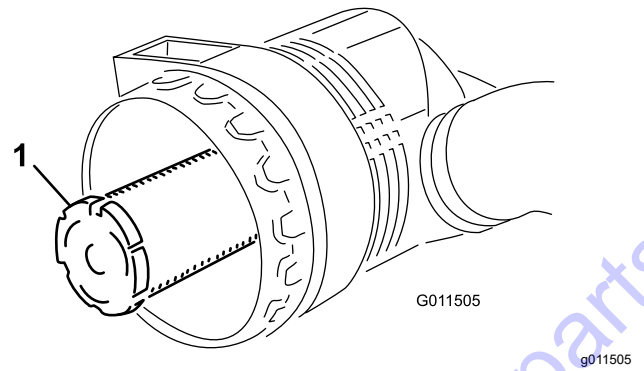

Figure 53
**Important:** Never attempt to clean the safety filter (Figure 53). Replace the safety filter after every 3 primary filter services.